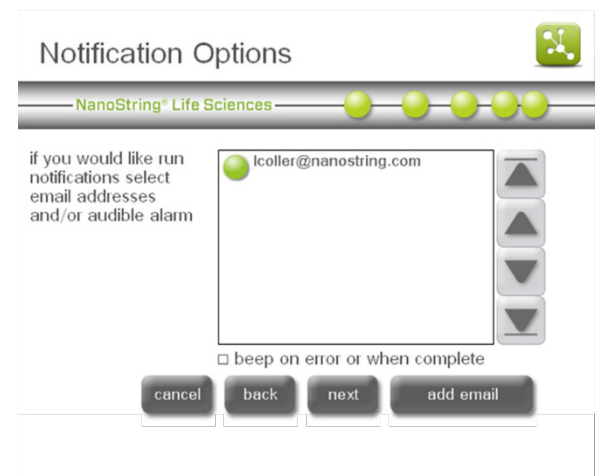

Figure 133: The 'Notification Options' screen
4. The 'Notification Options' screen will appear (Figure 133).